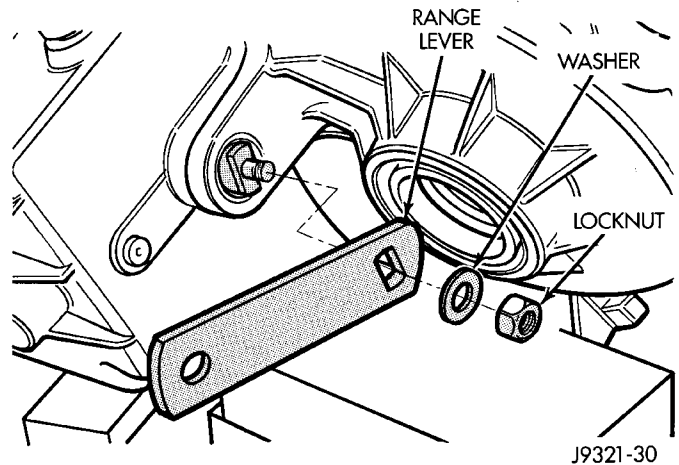

Fig. 72 Range Lever Installation
(1) Install indicator switch in front case. Tighten switch to 20-34 N·m (15-25 ft. lbs.) torque.
(2) Install range lever, washer and locknut on sector shaft (Fig. 72). Tighten locknut to 27-34 N·m (20-25 ft. lbs.) torque.